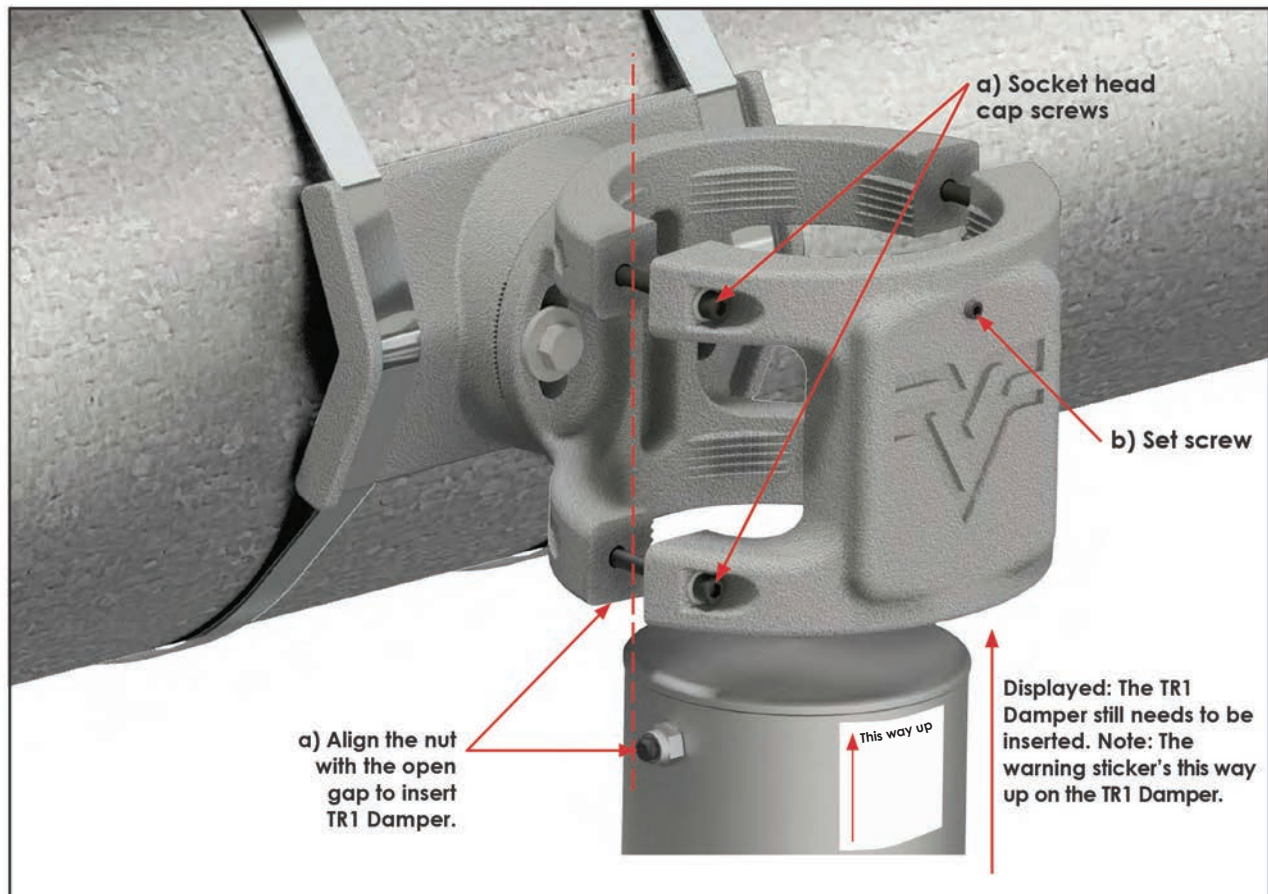

Figure 4
4) INSERT THE TR1 DAMPER INTO THE TR1 CLAMP FROM THE BOTTOM, UNTIL IT IS WITHIN 8" OF THE CENTER OF THE DAMPER TUBE. (See Figure 4)
(Note: Be sure that you insert the TR1 Damper into the TR1 Clamp taking note of the direction indicated on the sticker of the Damper, as shown in figure 4.)